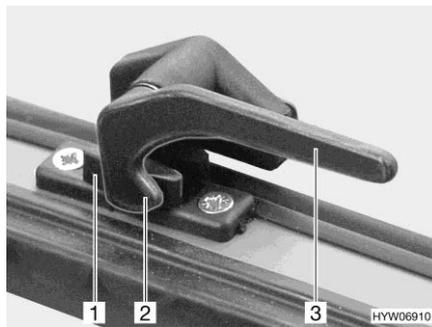

Fig. 53 Catch lever ("closed" position)
- Opening: ■ Turn the catch lever (Fig. 53,3) a quarter turn towards the centre of the window.
- Turn the catch lever (Fig. 53,3) a quarter turn towards the window frame. The locking catch (Fig. 53,2) is located on the inside of the window catch (Fig. 53,1).
- "Firmly closed" (Fig. 53).